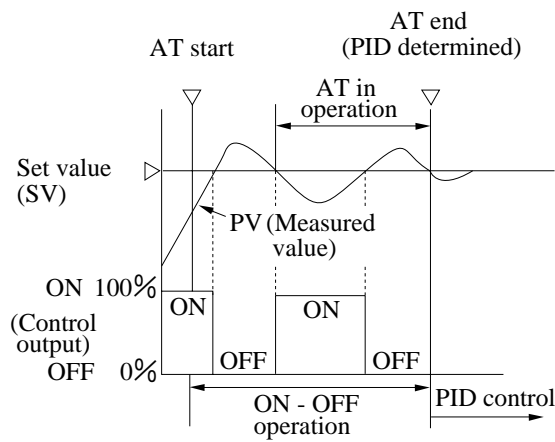

Fig. 3-1
- (g) During auto-tuning, PV and output vary as shown in Figs. 3-1 and 3-2.
① Standard type